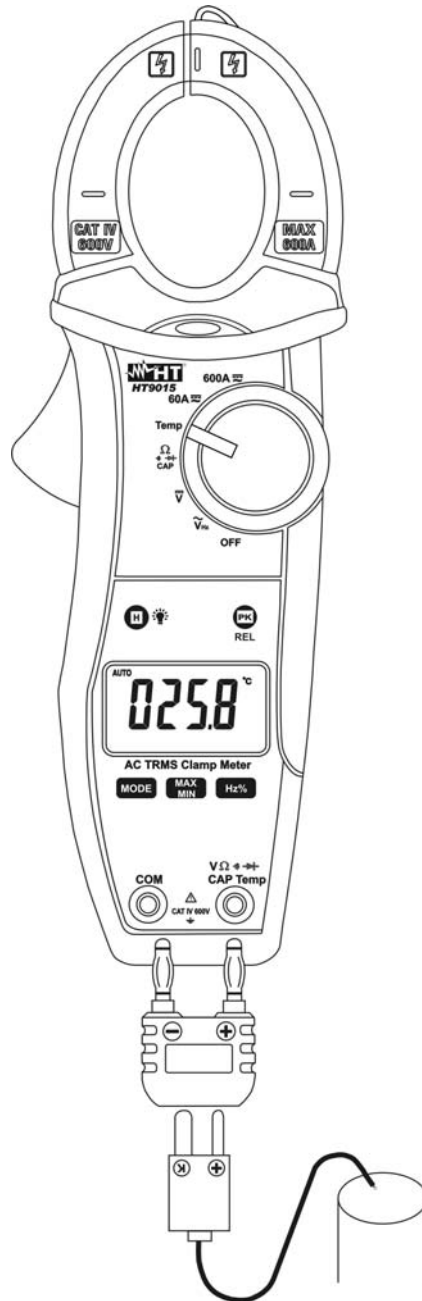

Fig. 8: Taking Temperature measurement
3. Insert the type K bead probe in **V Ω e → CAP Hz % Temp** and **COM** inputs terminals using the standard adapter and observing the correct polarity (see Fig. 8). The temperature value is shown at display